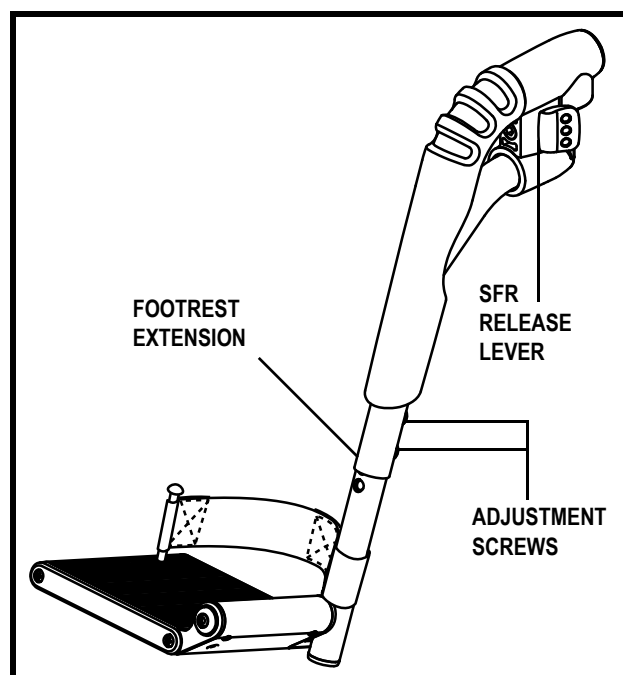

Figure 23. Swing-away Footrests
1. Remove the adjustment screw(s) from the footrest extension. See figure 23.